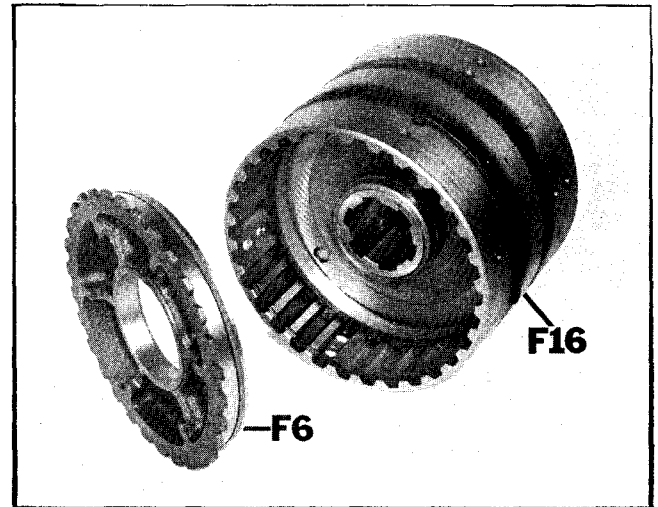

Figure 28
1. Remove piston (F-6) by turning clutch housing (F-16) upside down and tapping housing (Figure 28).